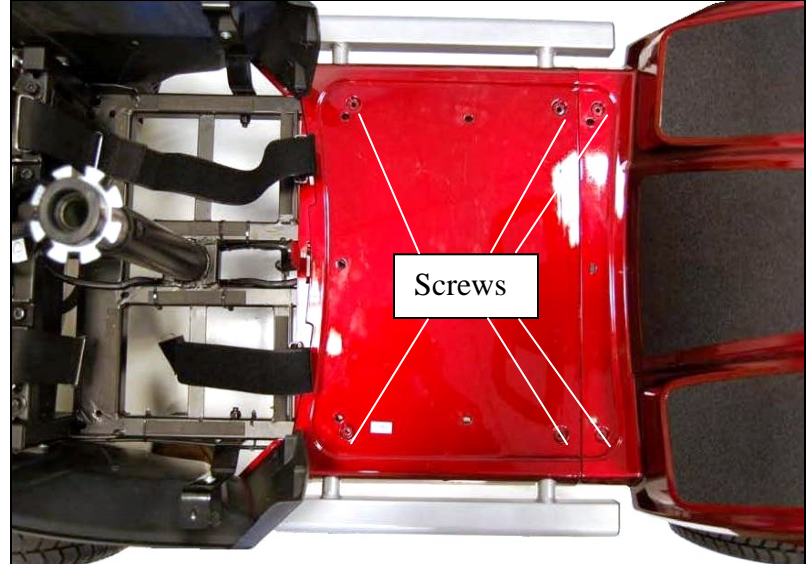

Figure 17. Center Floor Shroud
- 6) Remove the (6) Phillips screws and (6) 7mm lock nuts under the floor mat. See figure 17.